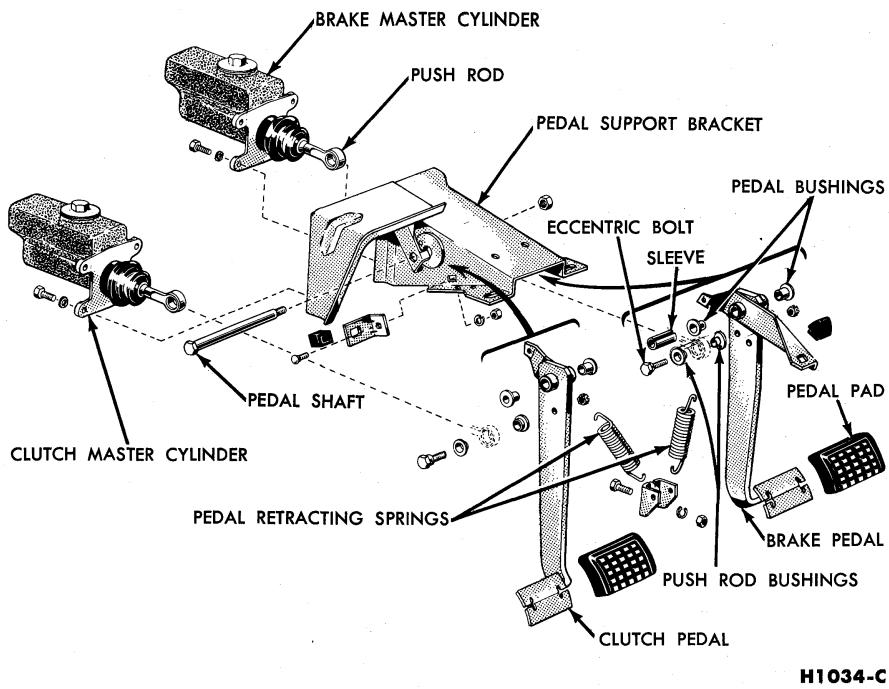

FIG. 19-B-, F-, N-, or T-Series and P-100 Brake Pedal and Related Parts
1. Remove the brake pedal retracting spring (Fig. 19).